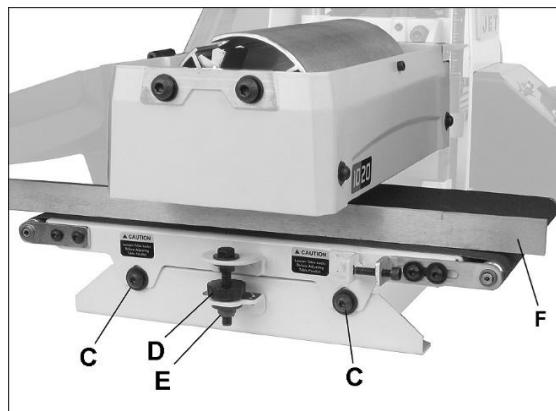

Figure 8-3: drum alignment
3. Position gauge (F, Figure 8-3) between drum and conveyor table at outboard side of drum.
1. Loosen both table locking screws (C, Figure 8-3) with 5mm hex wrench.
To e.g. raise outboard end of table, loosen lock nut (E, Figure 8-3) and rotate knurled nut (D, Figure 8-3) clockwise (+).